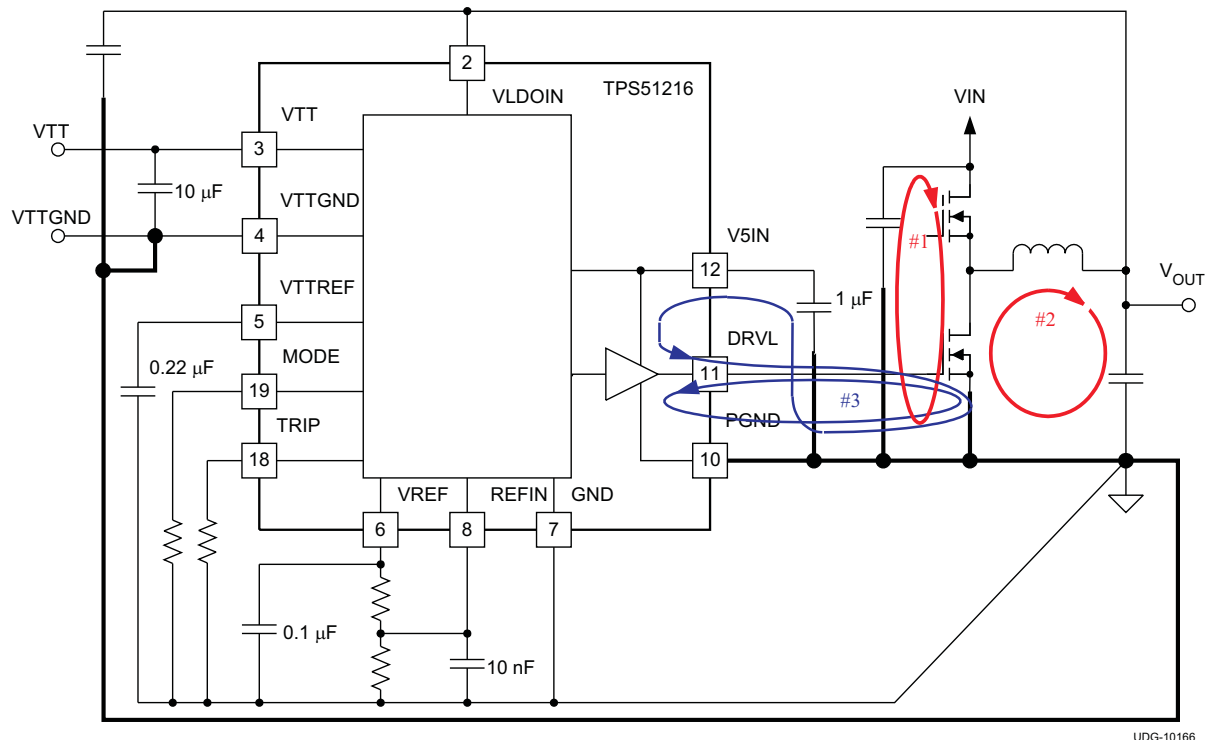

Figure 33. DC/DC Converter Ground System
- The most important loop to minimize the area of is the path from the VIN capacitor(s) through the high and low-side MOSFETs, and back to the capacitor(s) through ground. Connect the negative node of the VIN capacitor(s) and the source of the low-side MOSFET at ground as close as possible. (Refer to loop #1 of Figure 33)
- The second important loop is the path from the low-side MOSFET through inductor and VOUT capacitor(s), and back to source of the low-side MOSFET through ground. Connect source of the low-side MOSFET and negative node of VOUT capacitor(s) at ground as close as possible. (Refer to loop #2 of Figure 33)
- The third important loop is of gate driving system for the low-side MOSFET. To turn on the low-side MOSFET, high current flows from V5IN capacitor through gate driver and the low-side MOSFET, and back to negative node of the capacitor through ground. To turn off the low-side MOSFET, high current flows from gate of the low-side MOSFET through the gate driver and PGND, and back to source of the low-side MOSFET through ground. Connect negative node of V5IN capacitor, source of the low-side MOSFET and PGND at ground as close as possible. (Refer to loop #3 of Figure 33)